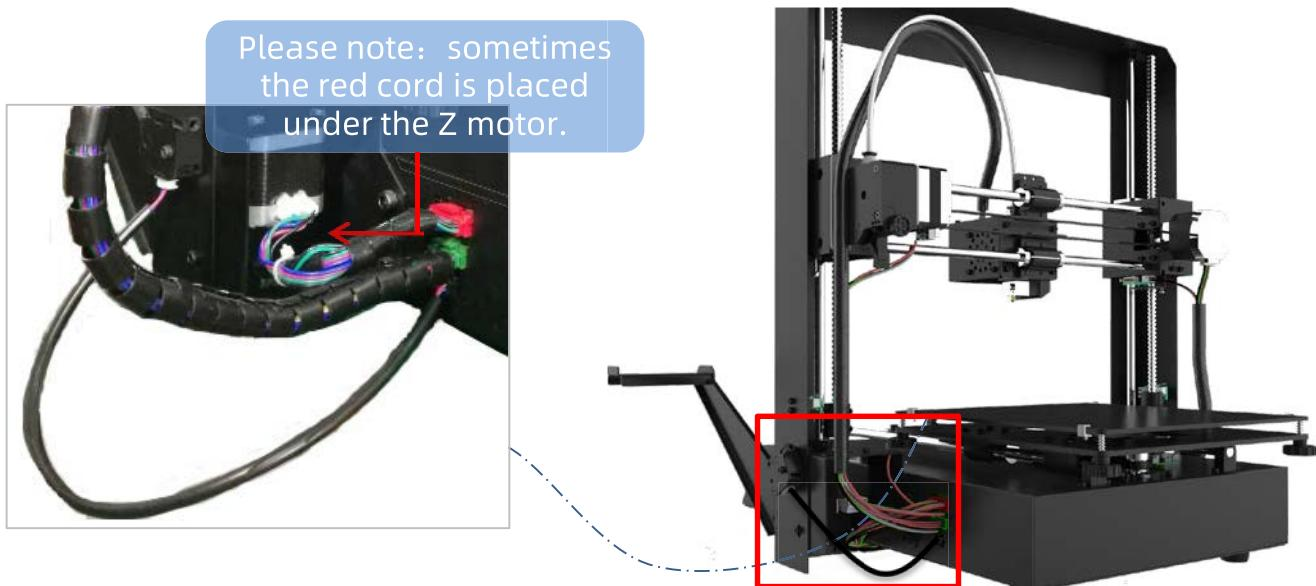

Figure 4
(2) There are 3 ports with different color (Red/Green/Black) at the bottom right side of the base, and there are 3 different color cable connectors respectively. Accordingly, insert those connectors to the ports by the same color, as shown in Fig.4.